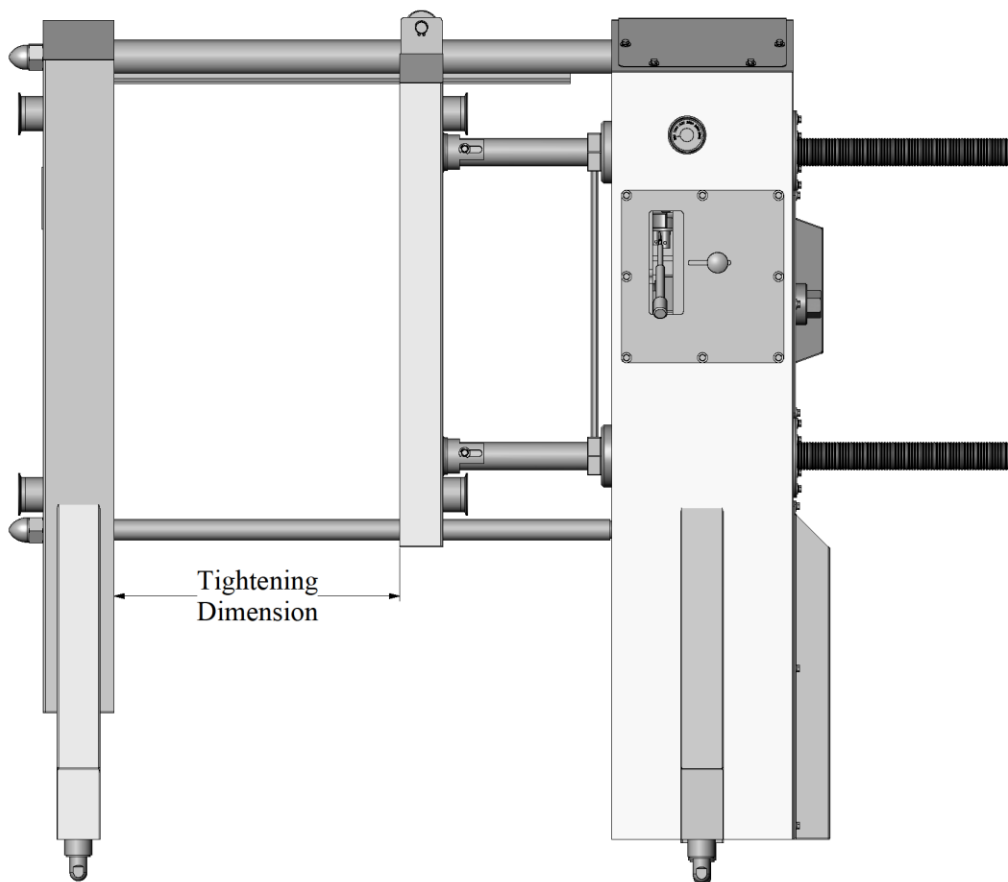

Figure 4
To close the frame, apply power to the hydraulic power unit. Before closing the press the operator should make sure all pipes and lines are clear and the plates are in the correct arrangement per the drawing. Move the open/close lever to the upper locked position. This lock or detent will hold the valve in position until the frame is approximately one to two inches from the start dimension. If this is the first time closing a new press or the first closure after installing new plates the compressed dimension should be observed and compared to that shown on the drawing. Hold the handle in the closed position and continue closing until the unit stalls. After the unit stalls you will be at the “dead-hard” dimension, which is between the start and minimum dimension for a new unit. You are now ready for operation. It should also be noted that as the plates compress, it is normal for the plate pack to make crackling noises. This is caused by the plates sliding along the support rail and is not a cause for alarm. After the hydraulic unit has stopped closing (stalled) disconnect power to the unit and make a note of the actual “dead-hard” dimension as shown in figure 4. If this dimension is below the minimum and the plates are installed per the drawing, you should consider purchasing a new plate pack or obtain a professional opinion from one of our factory engineers as to the actual condition of the plates.
4. Measure and record the compressed dimension of the plate pack (see figure 4).